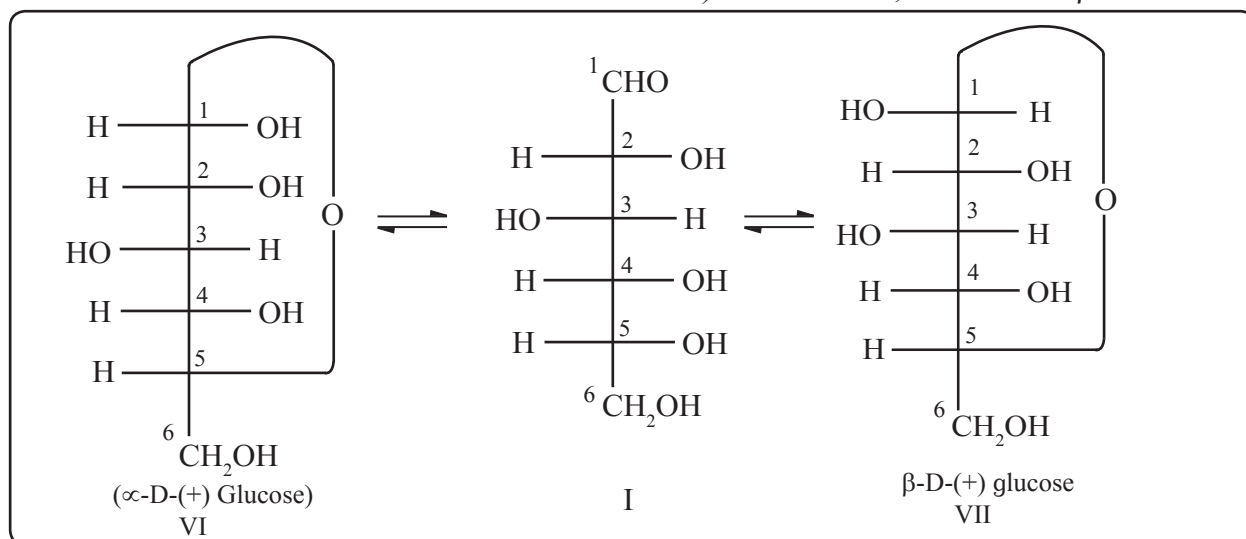
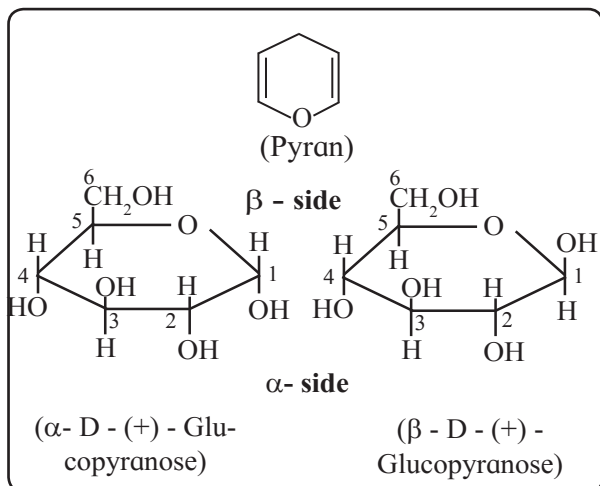

Fig. 14.5 Ring structures of glucose: Fischer projection formulae
Fig. 14.6 : Haworth formula of anomers of glucopyranose
Glucose is found to have two cyclic structures (VI and VII) which are in equilibrium with each other through the open chain structure (I) in aqueous solution (Fig.14.5).
The ring structure of glucose is formed by reaction between the formyl (-CHO) group and the alcoholic (-OH) group at C-5. Thus, the ring structure is a **hemiacetal** structure (section 12.8.2 c). The two hemiacetal structures (VI and VII) differ only in the configuration of C-1 (Fig. 14.5), the additional chiral centre resulting from ring closure. The two ring structures are called α - and β - **anomers** of glucose and C-1 is called the anomeric carbon. The ring of the cyclic structure of glucose contains five carbons and one oxygen. Thus, it is a six membered ring. It is called pyranose structure, in analogy with the six membered heterocyclic compound pyran (Fig. 14.6). Hence glucose is also called **glucopyranose**. Haworth formula is a better way than Fischer projection formula to represent structure of glucopyranose (Fig. 14.6). In the **Haworth formula** the pyranose ring is considered to be in a perpendicular plane with respect to the plane of paper. The carbons and oxygen in the ring are in the places as they appear in Fig. 14.6. The lower side of the ring is called α -side and the upper side is the β -side. The α -anomer has its anomeric hydroxyl (-OH) group (at C-1) on the α -side, whereas the β -anomer has